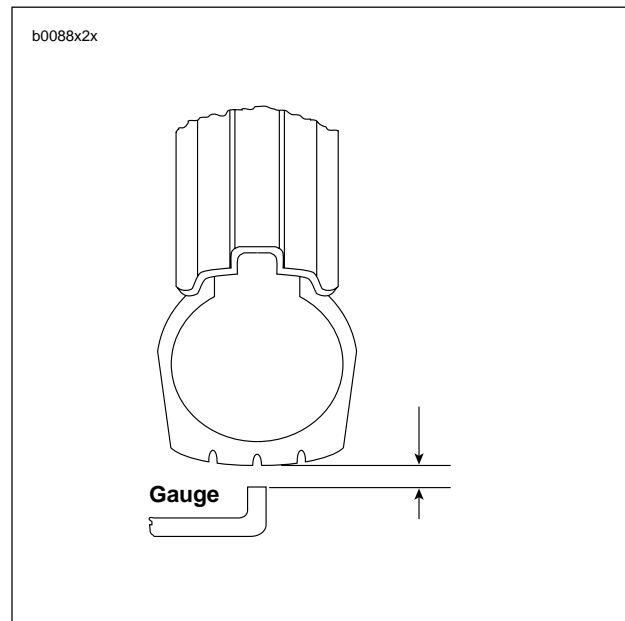

Figure 2-30. Checking Tire Radial Runout
1. See Figure 2-30. Turn wheel on axle and measure tread radial runout.